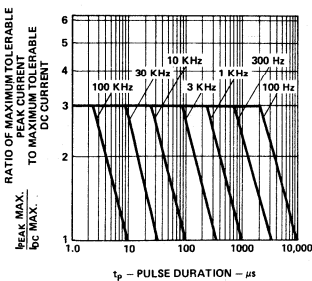

Figure 5. Maximum Tolerable Peak Current vs. Pulse Duration ( $I_{DC}$  MAX as per MAX Ratings)
1. See Figure 5 (Red), 10 (Yellow), or 15 (Green) to establish pulsed operating conditions.